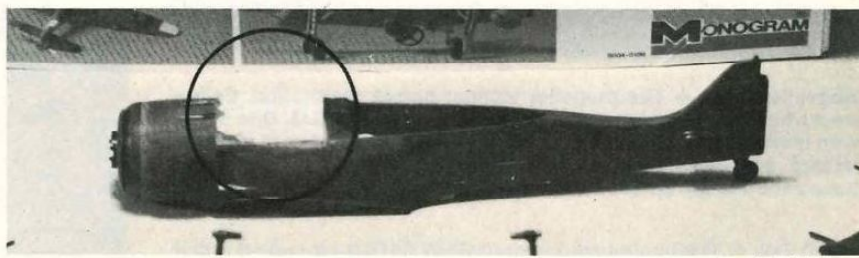

FIG. 11. The machine gun breech cover in front of the cockpit is made from Monogram and Koster parts and lots of putty.
**Fuselage breech cover** — The bulging machine gun breech cover in front of the cockpit is a distinguishing feature of the FW-190F-8. I made this breech cover with one of the parts in the Koster conversion kit and a portion of Monogram part G-18. I cut part G-18 into 2 pieces, sawing at the point where the barrels emerge from the fuselage, fig. 11, and discarded the aft portion. I removed  $1\frac{3}{16}$ " of the forward portion of the Koster breech cover and glued it in place. (The forward portion is used only with the D conversion.) I used an industrial liquid plastic cement, IPS Weld-on #4, to mate the Monogram and Koster parts. This cement gives a stronger bond than hobby liquid cement.